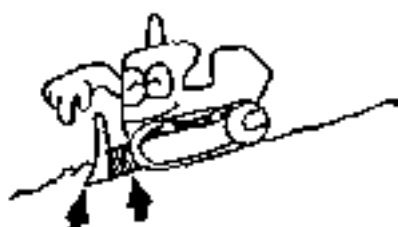

Fig. 6-2
3. If the machine has to be parked on a slope, rocks should be placed in front of tracks, as shown in Fig. 6-2.